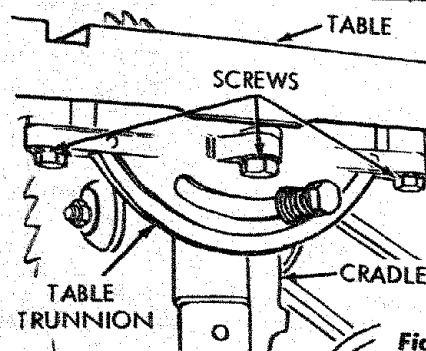

Figure 18
- (1) Locate the three screws which secure each (front and rear) table trunnion to the saw table. (See figure 18.) Loosen these screws just enough to